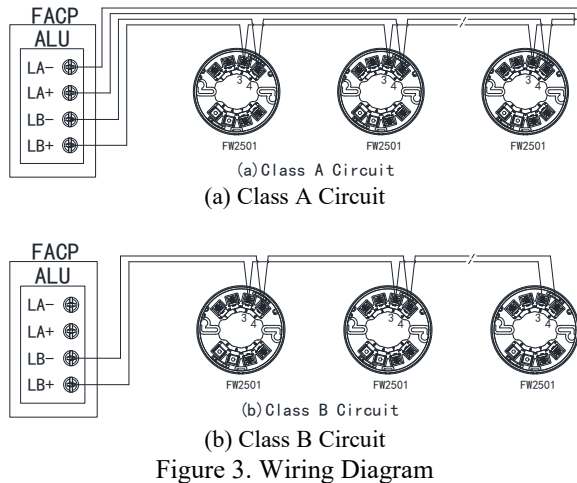

Figure 3. Wiring Diagram
- Wire the SLC to the detector base, as illustrated in Figure 3. There is no polarity distinction between terminal 1 and terminal 2.